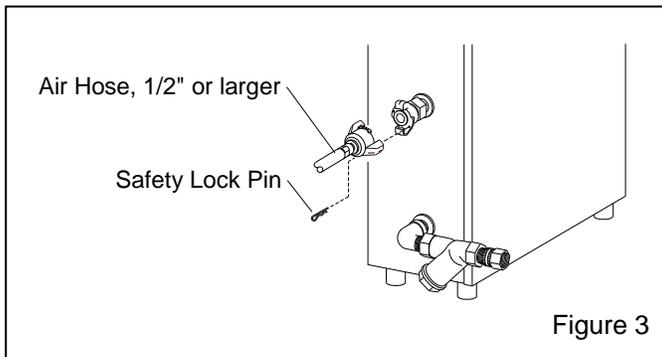

Figure 3
2.2 Connect Air Hose, Figure 3
2.2.1 Attach a 1/2" ID or larger air hose to the 2-claw coupling as shown in Figure 3. NOTE: If the user-supplied air supply hose has a different type of coupling, replace the coupling on the injector with one that is compatible with the hose. Make sure there are no reducers or restrictions that reduce the volume of air (21 cfm at 100 psi) required for the pump.